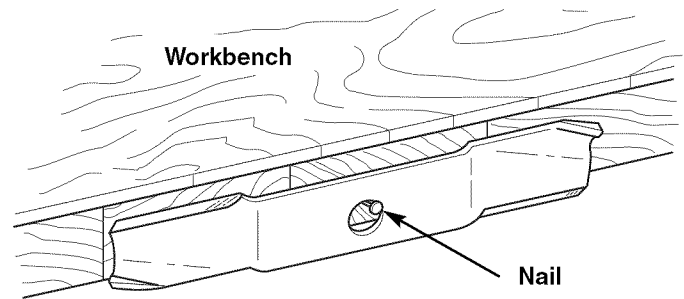

Figure 25. Balancing The Blade
6. Balance the blade as shown in Figure 25. Center the blade’s hole on a nail lubricated with a drop of oil. A balanced blade will remain level. If the blade is not balanced, continue to sharpen the heavy side until it balances.